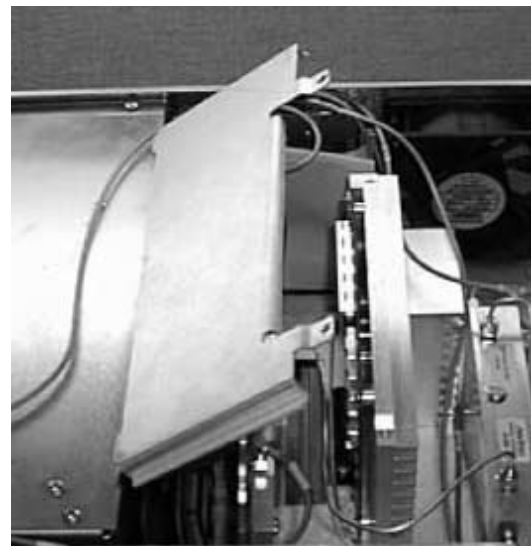

Figure 6-9. Removal of Card Cage Cover Retaining Screws
Step 1. Use a Phillips screwdriver to remove the two screws that secure the card cage cover; see Figure 6-9. Retain the screws.